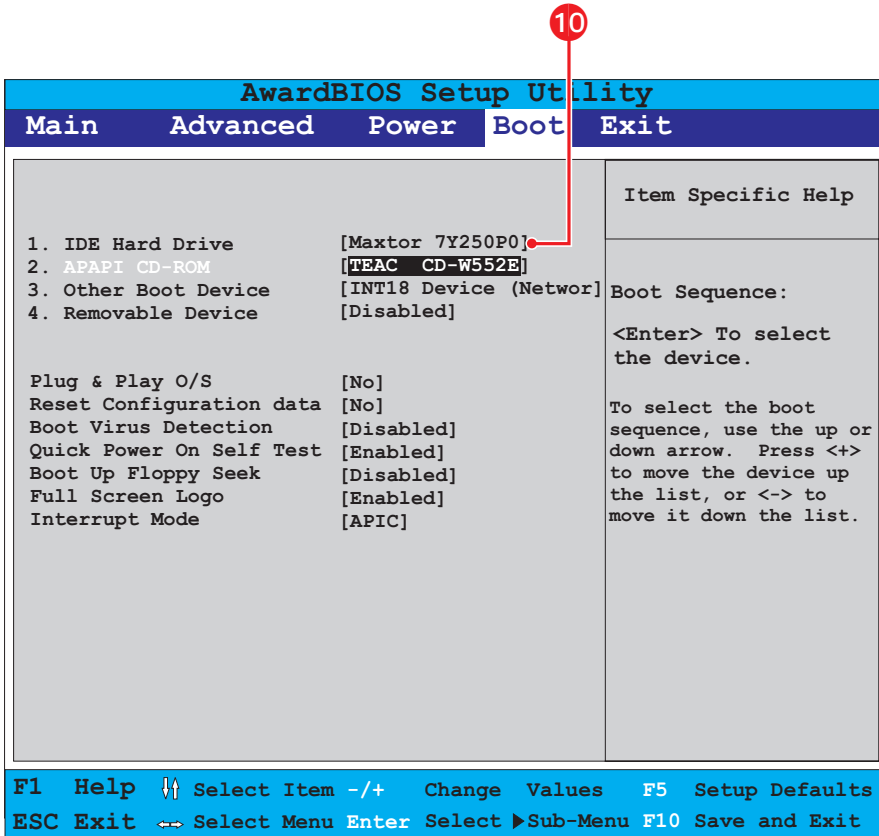

Figure 35. BIOS Boot Screen with Hard Disk Drive at Top
10. Press the minus (-) key on your keyboard to change the boot sequence from the CD/DVD drive back to the hard disk. The screen should look something like the example in Figure 35.